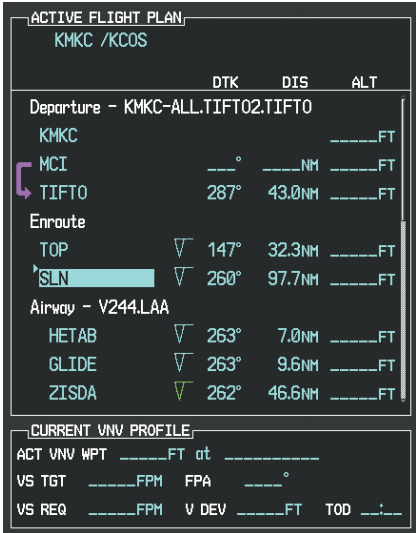

Figure 7-15 TOP Inserted into the Flight Plan
d) Press the **ENT** Key. TOP is inserted into the flight plan as in Figure 7-15.
e) With SLN still highlighted as in Figure 7-15, turn the small **FMS** Knob clockwise. The Waypoint Information Page is displayed and the **LD AIRWY** Softkey is now available.